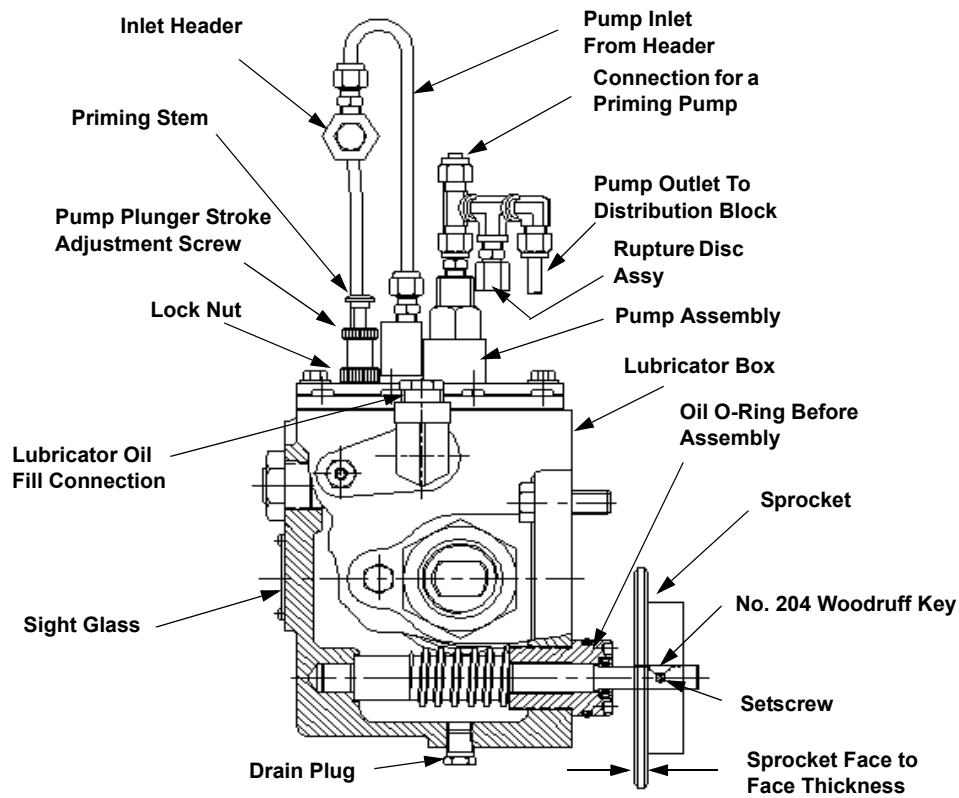

FIGURE 5-23: FORCE FEED LUBRICATOR CHAIN SPROCKET - TYPICAL
1. For the following steps, refer to Figure 5-23: on Page 5-34.